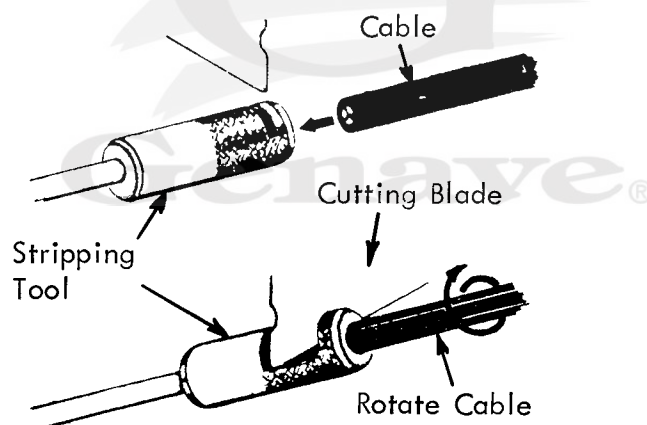

Figure 3
1. Using the stripping tool provided, strip the protective covering from one end of the antenna wire without nicking the wire. Insert antenna wire into tool as shown in figure 3. Place blade into slot and, rotating the cable, cut the insulation.